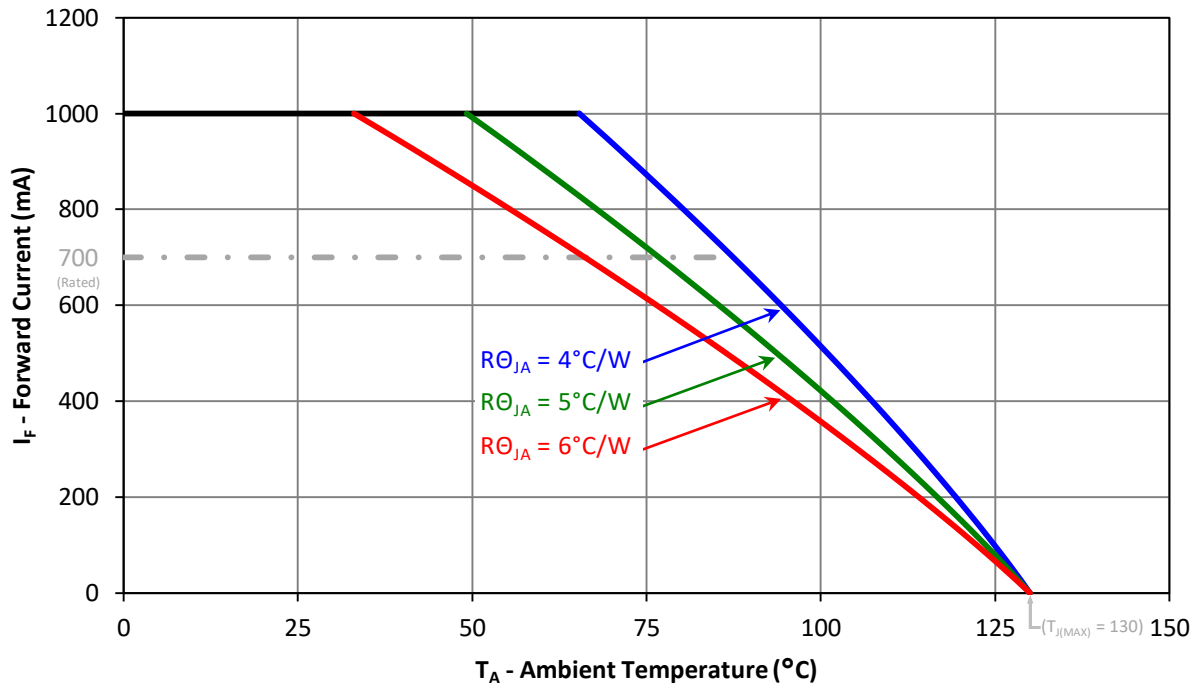

Figure 11: Maximum forward current vs. ambient temperature based on $T_{J(\text{MAX})} = 130^\circ\text{C}$
1. Maximum DC forward current is determined by the overall thermal resistance and ambient temperature. Follow the curves in Figure 11 for current derating.
Notes for Figure 11: